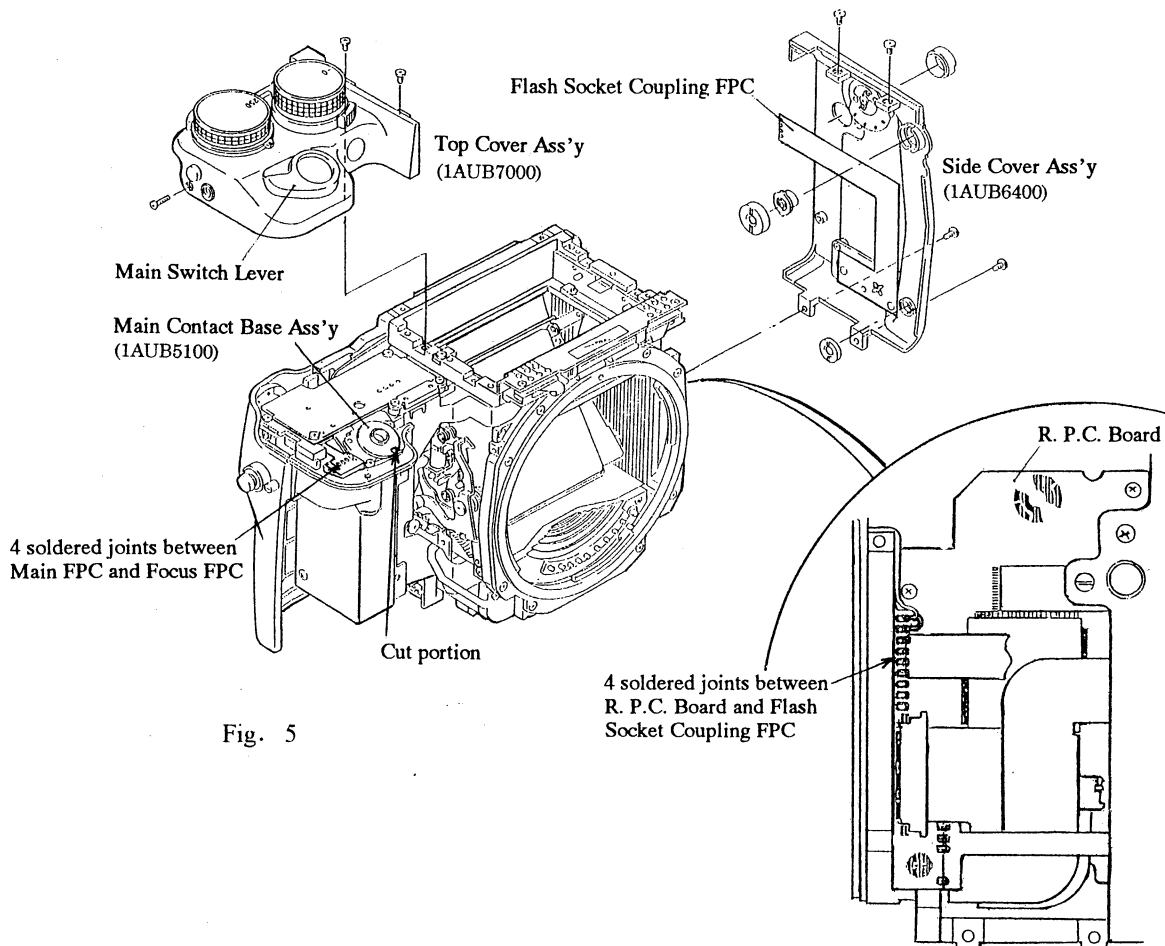

Fig. 5
- 2) Set the cut portion of the Main Contact Base Ass'y (1AUB5100) exactly in the direction of the front of the camera. (See Fig. 5)
- 1) Unsolder the 4 soldered joints between the Main FPC and the Focus FPC. (See Fig. 5)
- 5) Unsolder the 4 soldered joints between the R. P.C. Board and the Flash Socket Coupling FPC and remove the Side Cover Ass'y. (See Fig. 5)